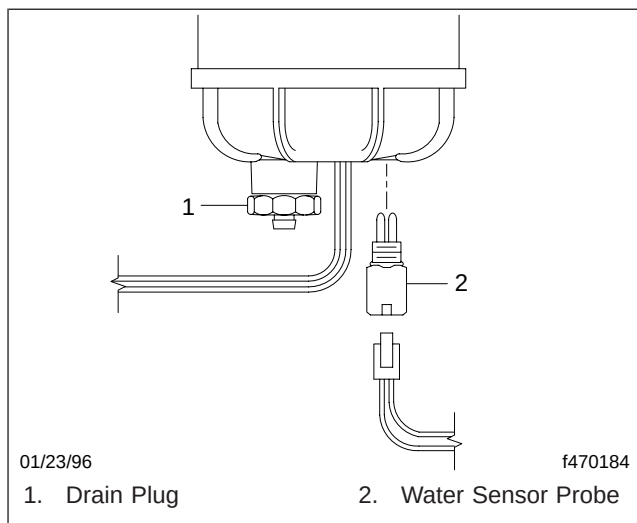

Fig. 1, Water Sensor Probe
5. If equipped, disconnect the wiring harness from the water sensor probe. See Fig. 1.